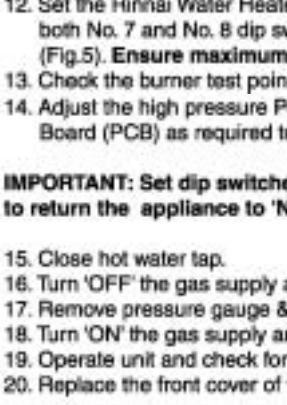

Fig. 5
- Set the Rinnai Water Heater to 'Forced High' combustion by setting both No. 7 and No. 8 dip switches of the bottom (SW1) set to 'ON'. (Fig.5). **Ensure maximum water flow !**